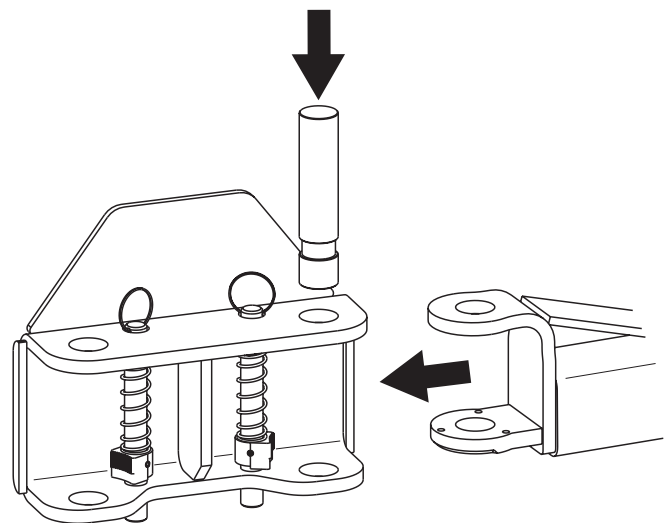

Fig. 17a
17. Arms & Restraints: Before installing arms, raise carriages to a convenient height. Grease swivel arm pins and holes with Lithium grease. Slide arm into yoke, Fig. 17a. Install 1-3/4" diameter arm pin(s), Fig. 17a.